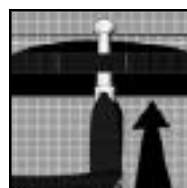

Figure 29
1. Insert one of the four clear plastic WA-11 toggles on the pouch, ball-end first, upward through one of the WA-11 black webbing slots on the packbag. **Refer to Figure 29.**